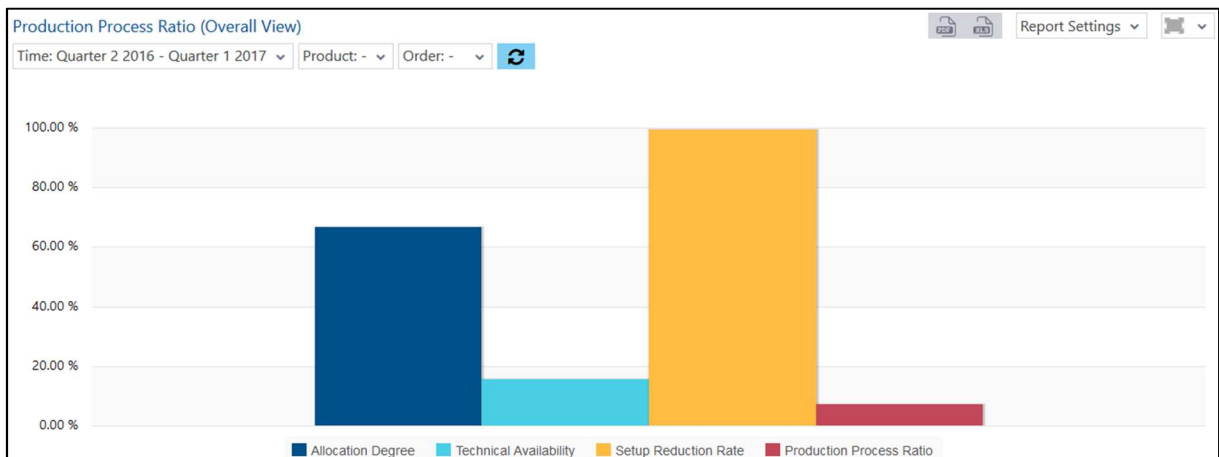

Fig. 127: Production Process Ratio (Overall View) as a column chart
- Production Process Ratio (Overall View) as a column chart (Fig. 127):